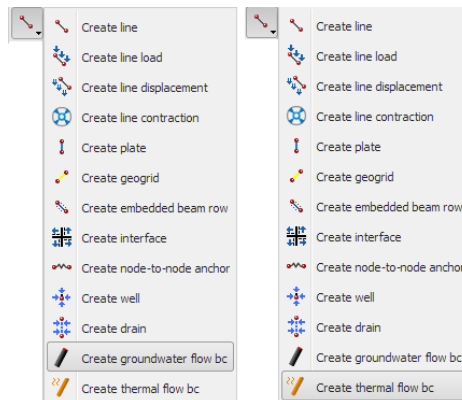

Figure 16.2 The *Create thermal and groundwater flow bc* option in the *Create line* menu
-  Select the *Create thermal flow BC* option in the expanded menu. In the drawing area create a thermal boundary condition from (0.0 0.0) to (85.0 0.0) (Figure 16.2).
-  Click the *Create line* button in the side toolbar, select the *Create groundwater flow BC* option in the expanded menu. In the drawing area create a groundwater flow boundary condition from (0.0 0.0) to (85.0 0.0) (Figure 16.2).